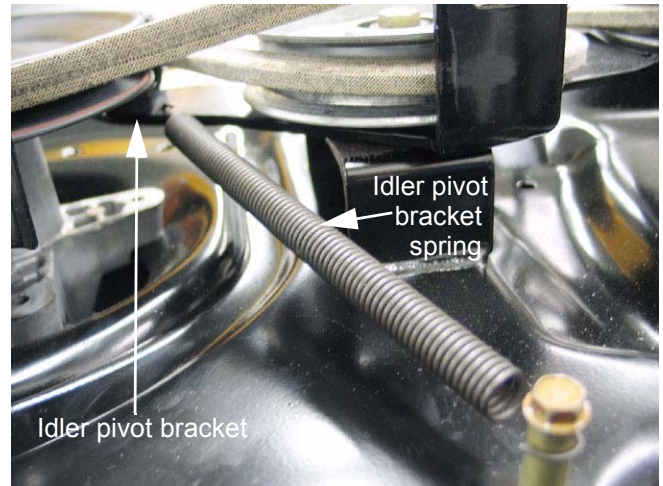

Figure 2.13
- 2.13. There are two extension springs on the cutting deck. One acts directly on the idler pivot bracket, releasing tension on the belt, and engaging the brake when the PTO is disengaged by relaxing the PTO control cable. See Figure 2.13.